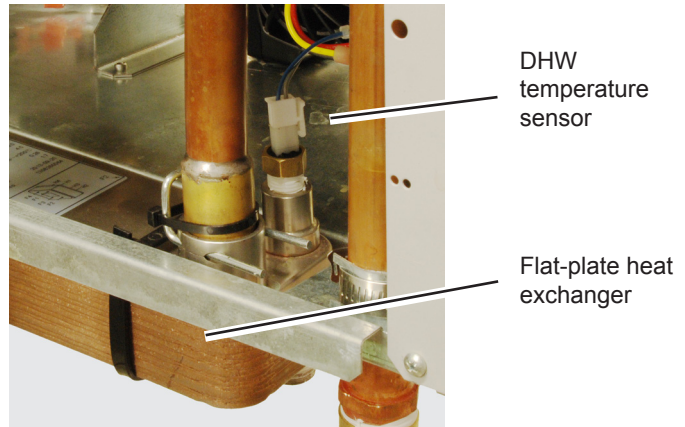

Fig. B21-1 - DHW High Temperature Limit Sensor
4. Remove the rear cover. The DHW high temperature limit sensor is mounted in the lower right corner of the rear of the unit. See Fig. B21-1.